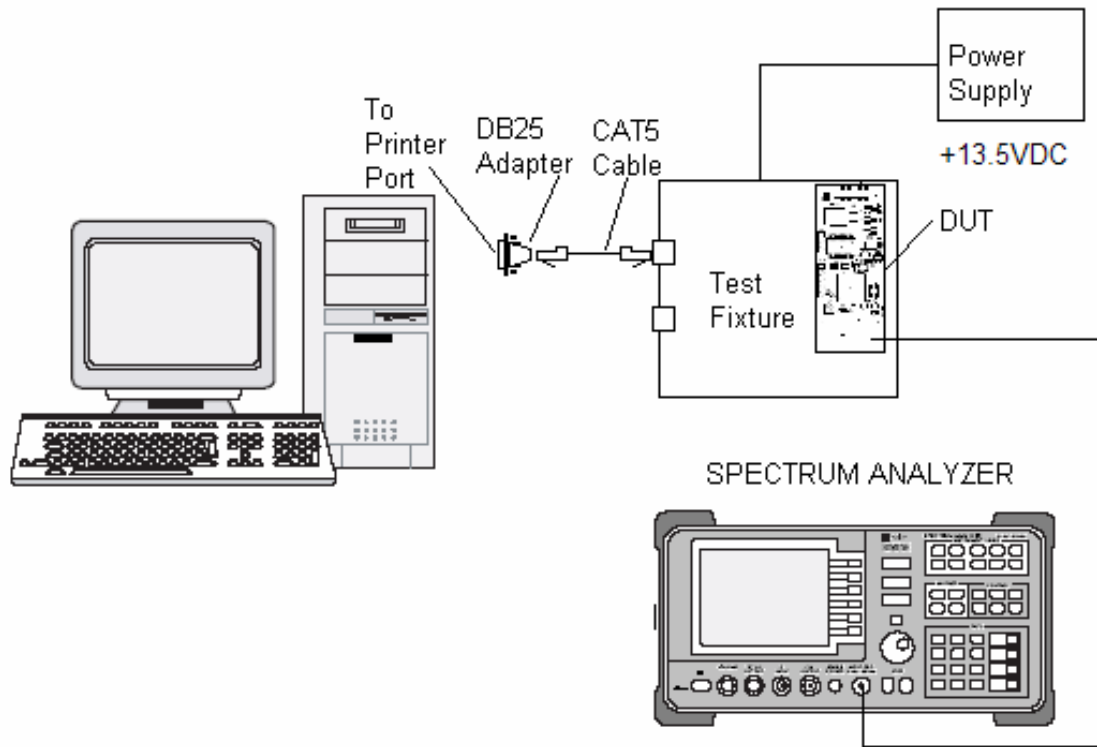

Figure 1. BlueCore™3 Flash Download and Carrier Frequency Trim Setup
1. Connect the equipment as shown in **Figure 1**.